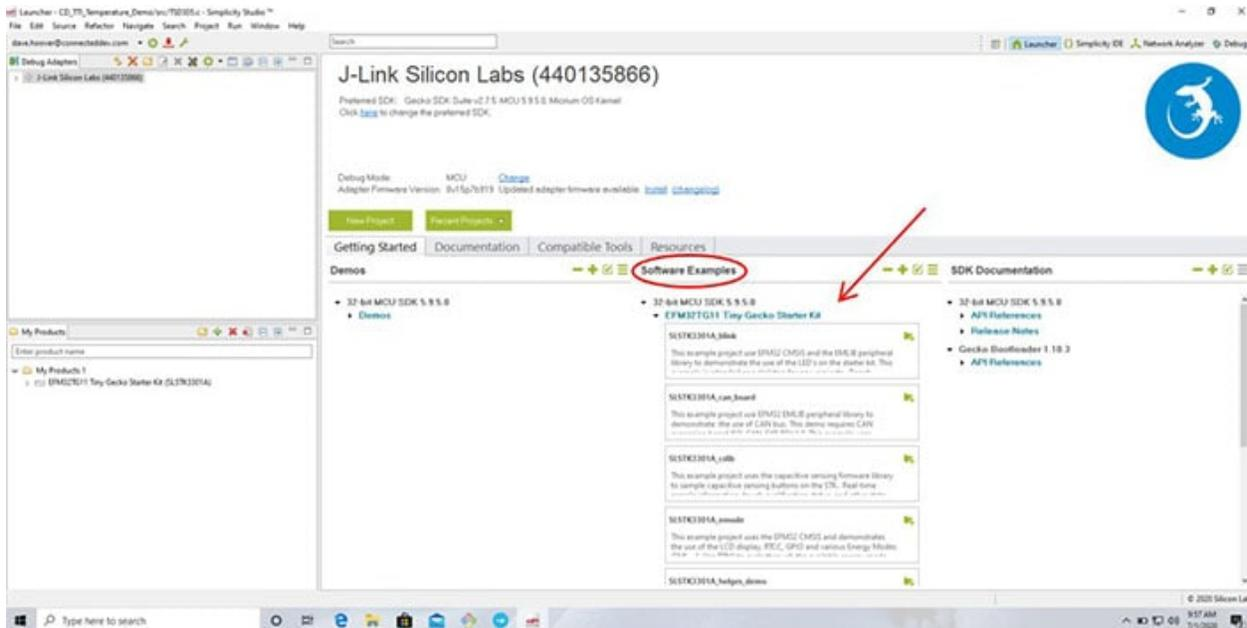

Figure 6: Software Examples section. (Source: Simplicity Studio)
11. Choose a software example (such as “blink”) from the “Software Examples” section (Figure 6). (Note: While not the required selection, blink is a simple software that can easily prove that the Simplicity Studio installation, compiling, and microcontroller code download are working properly.)